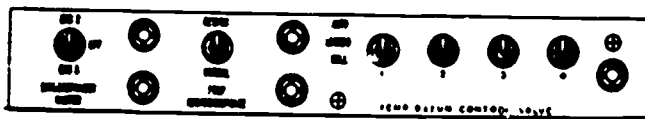
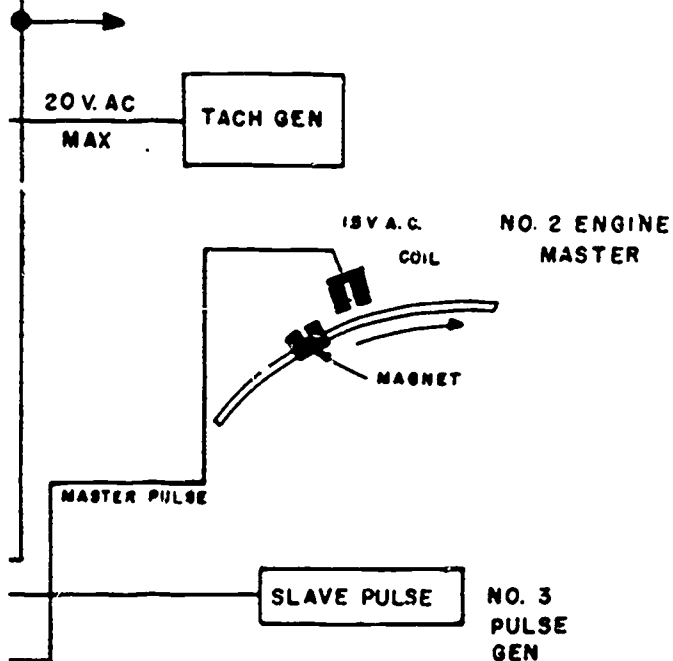

Figure 2. Pilot's Pedestal.
Figure 4. Hamilton Turbosynchromaser Block Diagram.
The electronic unit uses the signals from an anticipation potentiometer and an engine-driven tachometer generator to keep the engine speed constant during and after the throttle lever has been moved. Movements of the throttle will turn the anticipation potentiometer. See figure 4 (D). Signals from the potentiometer are to the synchrophaser which will electrically control the two-phase motor in the speed bias servo assembly. In this way, the
The propeller manual phase and trim control determines the phase angle of the slave propellers in relation to the master propellers. See figure 4 (G).
The speed bias servocontrol gets the control voltage as a signal to change the speed setting of the propeller. As the voltage repositions the speed bias motor, the motor will change the speeder spring tension in order to set the pilot valve which will meter oil to the dome to cause a blade angle change. This will provide the desired speed change. See figure 4.
The output signal from the synchrophase electronic unit will correct the slave engines within $\pm 2\%$ of the master engine speed. This is to stop the slave engines from following the master engine too much in the event of a malfunctioning master engine. If more than a 2% change is desired, the pilot can push the "resynch" switch, found on the pilot's pedestal, see figure 2, let it go, and the servo bias motor will reposition itself to allow another two percent correction to be made. See figure 4 (B).
These four two-position toggle switches can be found on the copilot's side panel. See figure 3. When they are put in the MECHANICAL position, all the signals to the propeller control are isolated by removing the reference voltage. See figure 4 (E). The propeller works only on the mechanical governing. When the switches are in the NORMAL position, the propeller gets signals from the synchrophaser system.